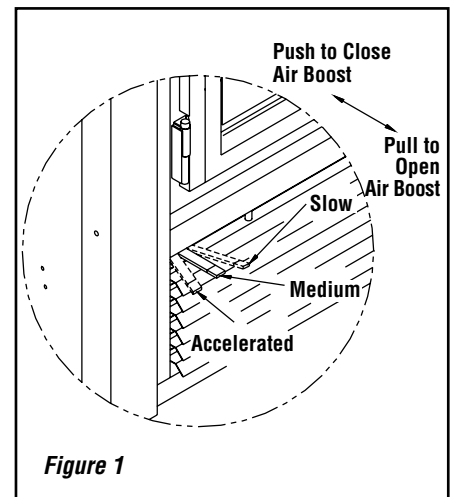

Figure 1
This is the recommended mode of operating the Brentwood™ LV fireplace and should be the one normally used since it will deposit the least amount of creosote on the glass and in the chimney. The combustion air control must be 3/4 closed (**Figure 1**) and pushed in to close the air boost. The precise setting will depend on many factors, including chimney length and the moisture content of the wood.
Creosote may accumulate on the glass door. This method of burning should be used only after operating the Brentwood LV fireplace with the air control opened (**Figure 1**) to produce a hot fire for about an hour or at medium pace for at least three (3) hours. Slow combustion can be used at night in order to reduce the heat output and to prolong the burn. The loading time will be between 6-8 hours.
The Brentwood LV fireplace will operate best if attention is given to operating the unit with the damper fully opened (**figure 1**) after refueling in order to bring the firebox and the chimney system up to their optimum operating temperature. Combustion efficiency is relative to firebox temperature. A temperature of 932° F (500° C) and up, with a visible flame, in the upper part of the firebox indicates a maximum efficiency. To obtain this temperature, the fireplace must be operated with the primary air and air boost controls fully opened during 10 to 20 minutes after reloading, depending on the heat and on the moisture content of the wood.